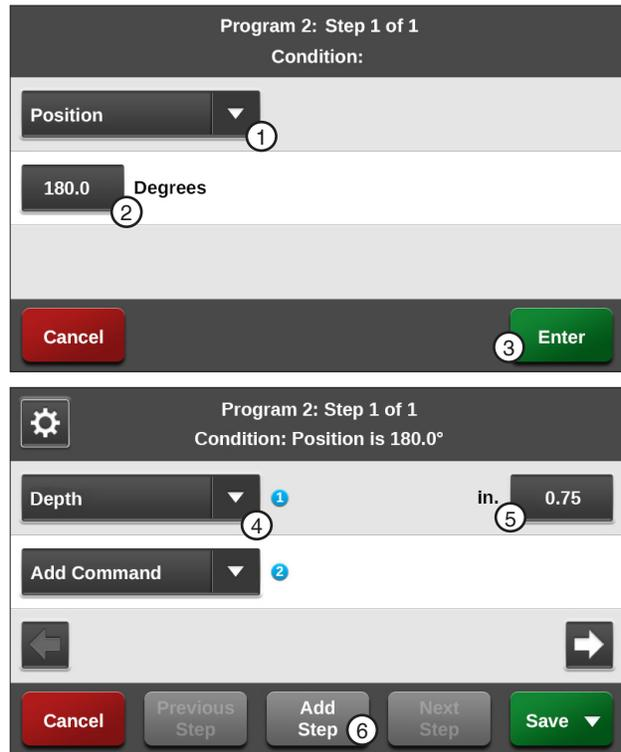

Figure 130-1 1. Position Condition 4. Depth Command
1. Program the position condition for this step. Refer to Figure 130-1.